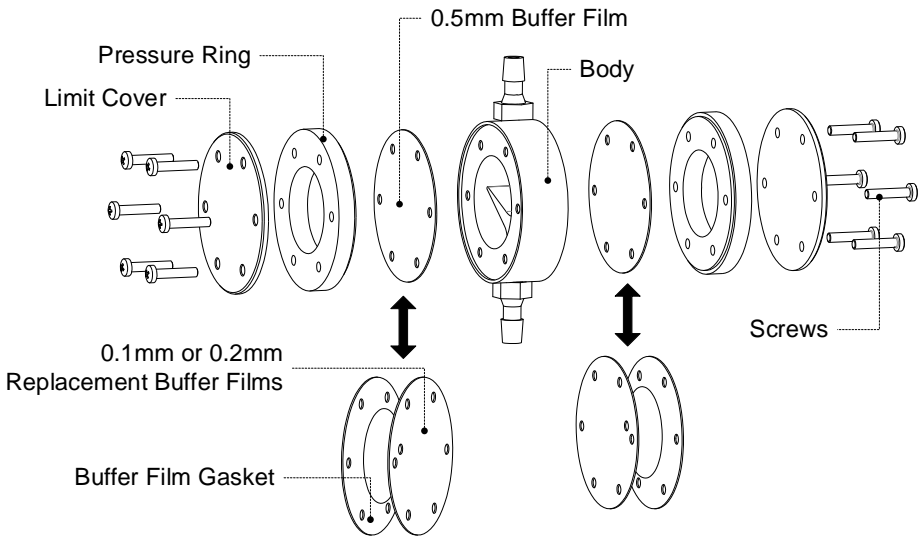
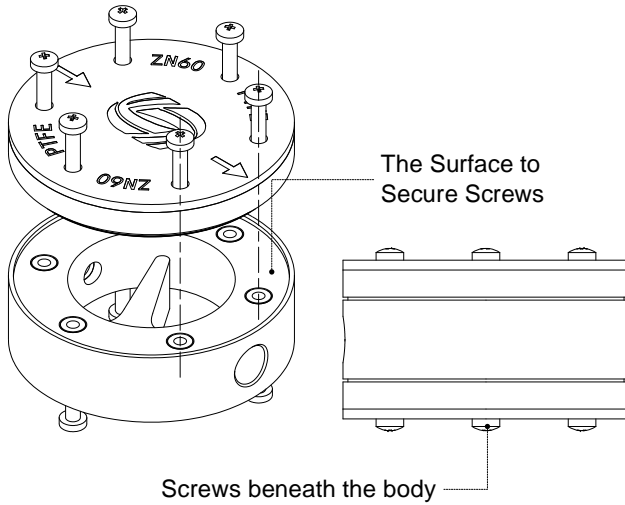

Figure 3. Disassemble Damper
Figure 4. Disassemble Damper
- (1) Remove the fastening screws on both upper and lower sides of the ZN60/ZN100 damper (as shown in Figure 3), disassemble the damper, and take out the 0.5mm buffer film.
- (2) Remove the 0.2mm or 0.1mm buffer film from the package, peel off the protective film from both sides, and take out two buffer film gaskets. Affix one side of the buffer film gasket to the pressure ring, then attach the thinner replacement buffer film to the other side of the buffer film gasket. Finally, tighten the screws on the top of the body.
- (3) When installing one side of the buffer film, first ensure that the body aligns flush with the embedded nut surface (as shown on the left side of Figure 4). Begin by screwing in the screws on the top, but do not tighten them at this point. Proceed to screw in the screws underneath the body, then tighten them (as shown on the right side of Figure 4). This sequence is important as tightening screws opposite to the embedded nut first will prevent the nut from slipping inside the body. Finally, tighten the screws on the top.